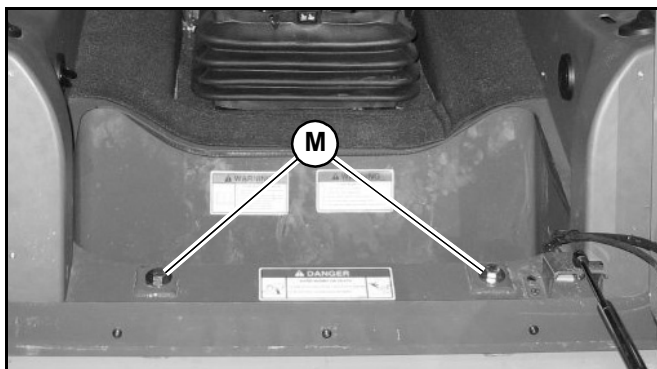

Fig. 114 – ROPS/FOPS Anchor Fasteners
3. Secure the ROPS/FOPS to the chassis with anchor bolts and washers (M, Fig. 114). Torque anchor bolts to 75 lb.-ft. (102 Nm).
Always secure the ROPS/FOPS to the chassis with anchor bolts and washers (M, Fig. 114) before driving or using the machine.